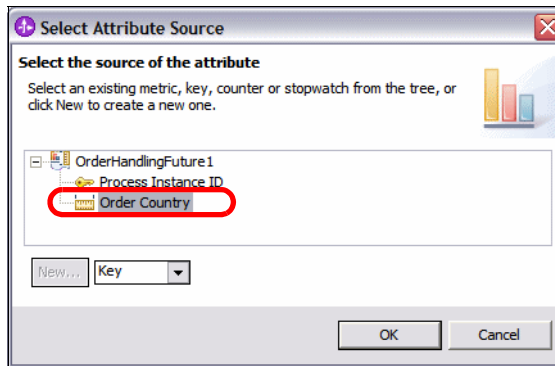

Figure 12-39 Order Country metric
- ▶ Click  in the Source column and select the Order Country metric. Leave Key selected (Figure 12-39).